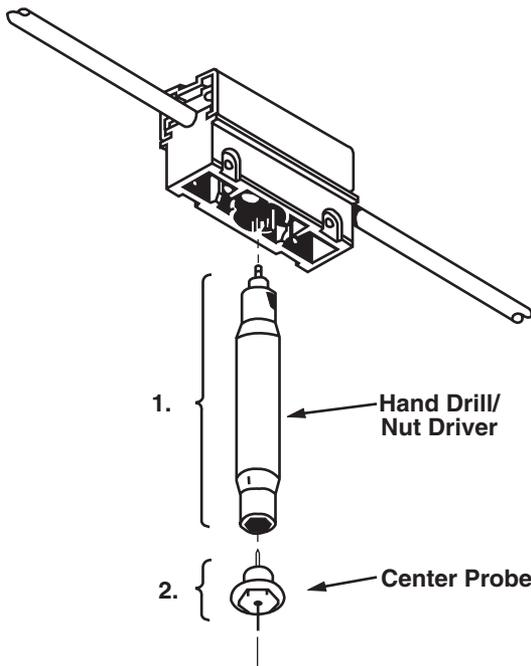

Figure 3-6. Cable Installation.
7. Insert the hand drill clockwise, and drill a hole into the cable (see Figure 3-6). When the drill begins to turn easily, remove it and check the hole. The hole must be clean and free of debris; use a tweezer to remove any dirt. (If there is any debris present, stray pieces of shield braid may short to the center conductor when you install the center probe.)
8. Use your fingers to push the probe into the threaded space in the cable bed (see Figure 3-6). Turn the probe clockwise.